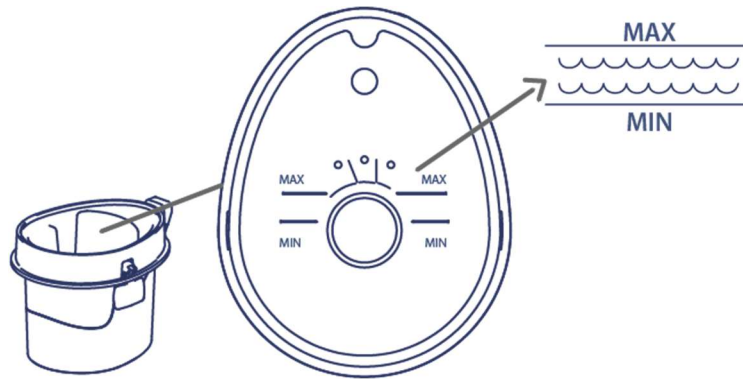

Figure 9 – Mist Cup MIN and MAX Fill Lines
3. Place the Mist Cup on a level surface and carefully fill the Mist Cup with anesthetic solution meeting the specification below. The Mist Cup must be filled to between the MIN and MAX fill lines, or it will not operate as designed (Figure 9).